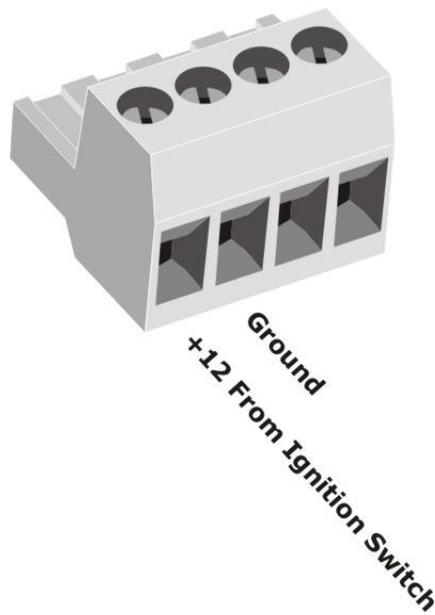

Figure 14: Joystick Terminal Block
- b. Connect wire from power source located in Step 2a. above to "Ignition Switch Positive" on the joystick terminal block as shown in Figure 14.
- c. Locate a convenient ground connection and wire it to "Ground" on the joystick terminal block as shown in Figure 14.